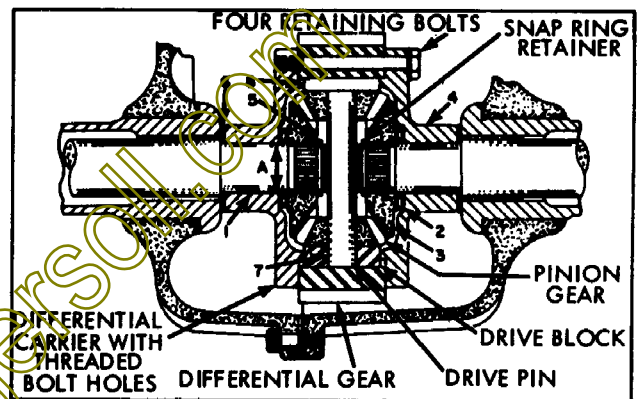

Figure 4-8
3. Refer to Figure 4-8 for the proper arrangement of parts.